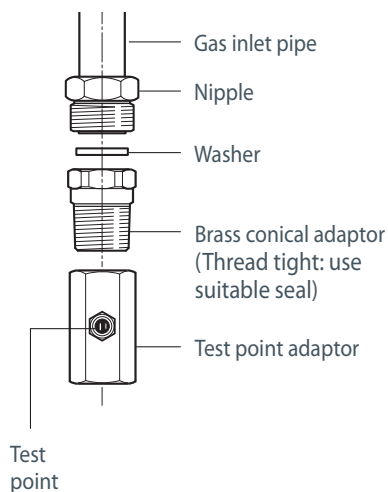

Fig. 12 LPG connection
- For LPG, connect the gas supply to the test point adaptor which is supplied with the appliance (Fig.12). Ensure that the supply pressure is regulated to 2.75 kPa.